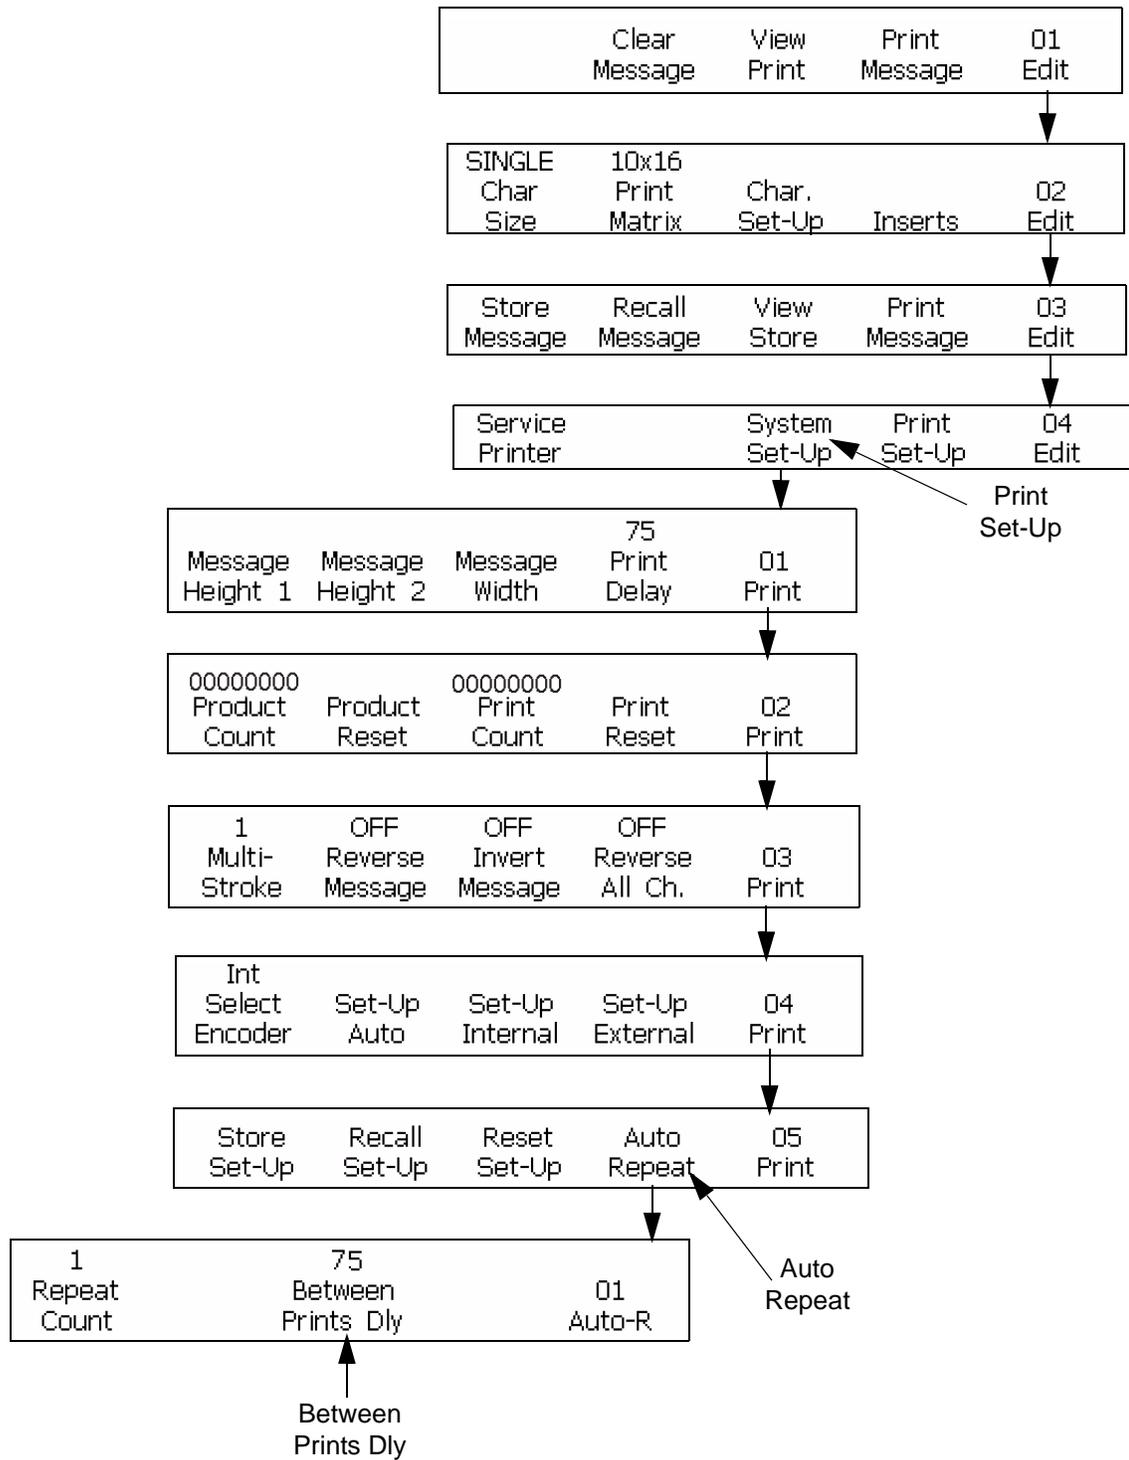

Figure 7-11: Access Frame <01 Auto-R>
- 1 Begin with the Frame <05 Print>. Refer to Figure 7-11 on page 7-19 on the previous page.